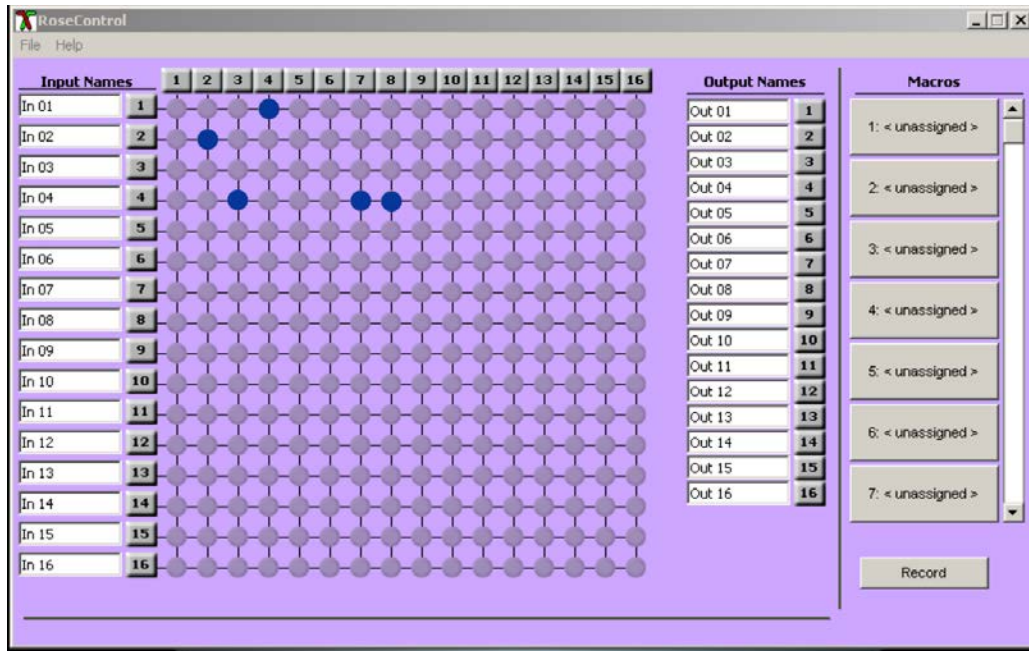

Figure 3. Rose Control Switching Matrix
6. When all fields are set to the correct values, click on the “OK” tab. The matrix OSD will display as shown in Figure 3.
In the example shown in Figure 3, Input 04 is connected to output 03, 07, and 08.